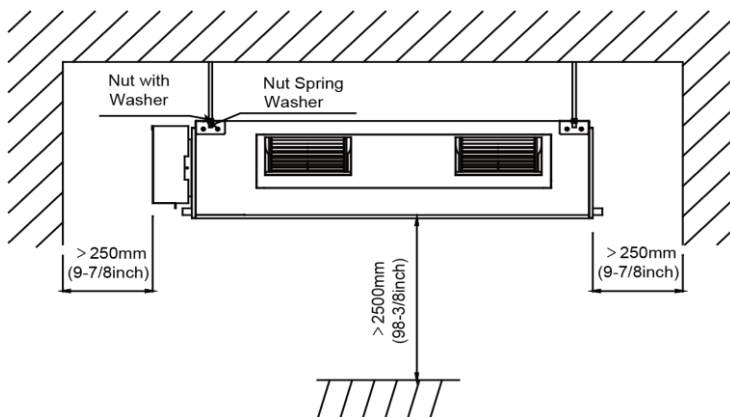

Fig. 3.1
- (1). Install the unit at a place where is strong enough to withstand the weight of the unit.
- (2). The air inlet and outlet of the unit should never be clogged so that the airflow can reach every corner of the room.
- (3). Leave service space around the unit as required in Fig. 3.1.